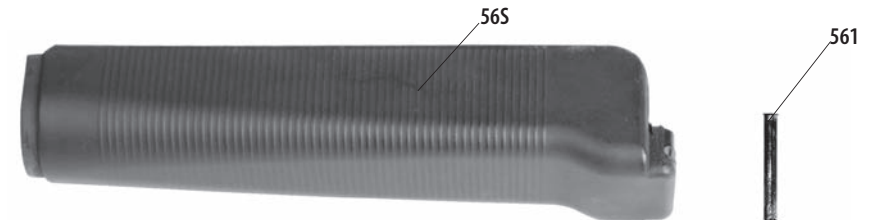
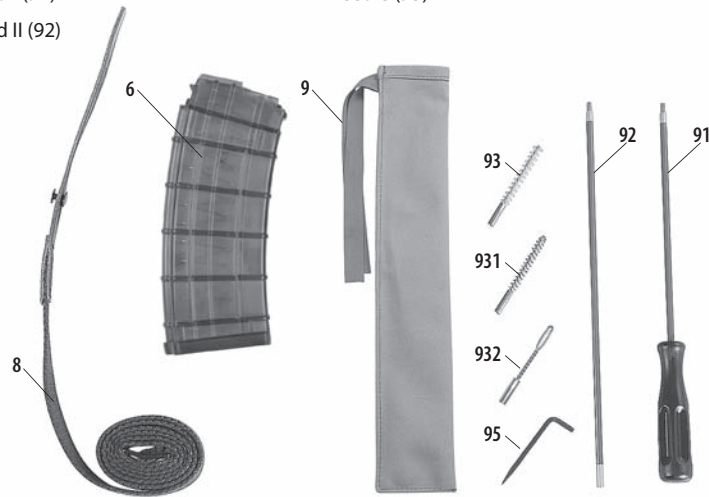

Fig. 21 **Lower handguard**
Fig. 22 Accessories
**Lower handguard** 56P (Fig. 21) is made of polymer and covers the barrel from below. The front end of the lower handguard is shifted in lower handguard front hoop 16 which is slipped over the barrel and snapped in by the gas adapter lug. The rear end of the lower barrel guard is fixed to the receiver by pin 561 (Fig. 22).